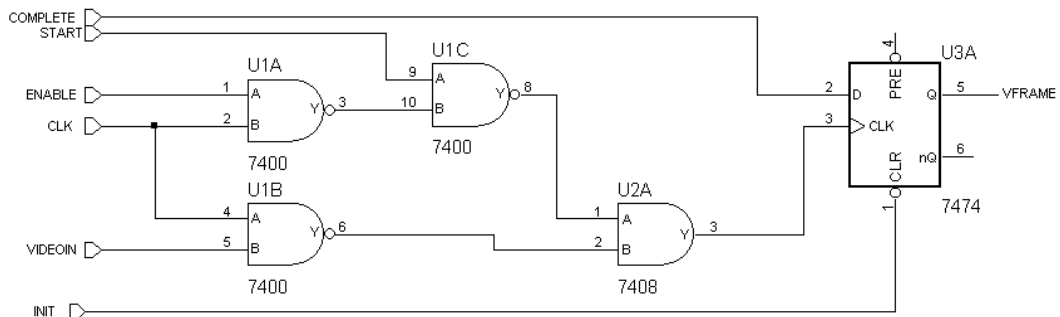

Figure 1-24. Applying Stimulators to Circuits.
- ☐ A signal applied to the device input pin exists only at that input pin and does not spread through the node to any other pin. For example, if you apply a signal at U1A-2 (Figure 1-24), it will only control that particular input and will not have any effect on U1B-4.
- ❑ If you apply a signal to a node and the node does not have any device output pins (e.g. signal *CLK* in Figure 1-24), then it will control all pins in the entire node. However, if you apply a signal to a node (e.g. *VFRAME* signal name in Figure 1-24) which has any active device output, e.g. U3A-5, then it will be overridden by that output. Use node names primarily to connect wires between pages and to monitor what is going on in the node. However, apply stimulus signal to a node name only if there are no output pins in the node.